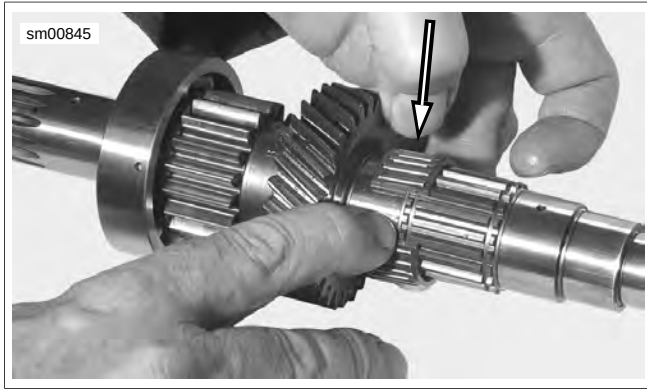

Figure 6-144. Split Cage Bearing
10. See Figure 6-144. Remove split cage bearing.